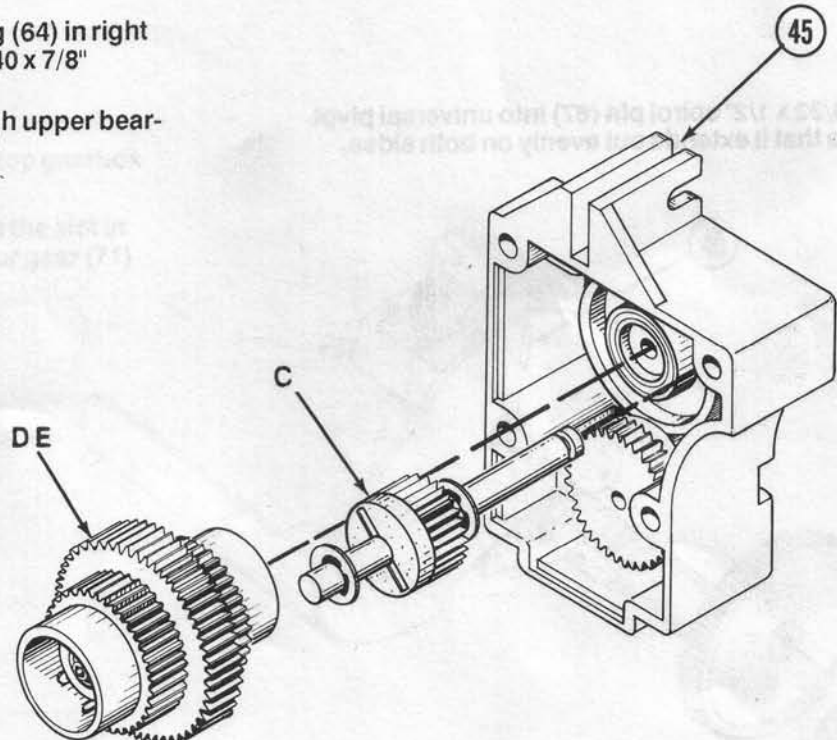

FIG. 24
29. Place differential onto center bearing (64) in right half of gearbox so that the head of the $5-40 \times 7/8"$ shoulder screw (57) is exposed. Fig. 24.
30. Slide long side of assembly C through upper bearing in right half of gearbox (45). Fig. 24.